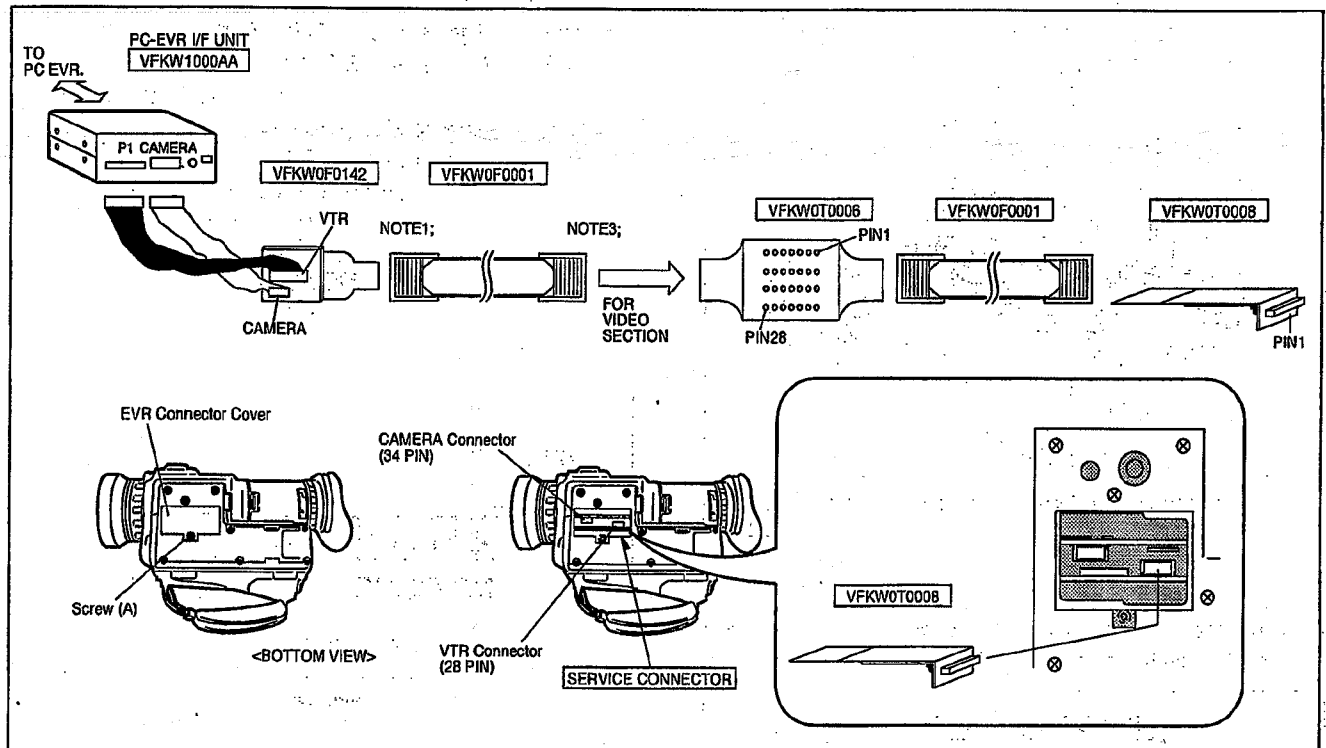

Fig. A17
Play back the cassette tape and confirm that the tape travels without curling at the upper and lower guides on the following posts in the Play and REV modes as shown in Fig. A17:
4. Adjust the envelope signal by connecting the oscilloscope with "Tatsujin Kit" as shown in Fig. A17.